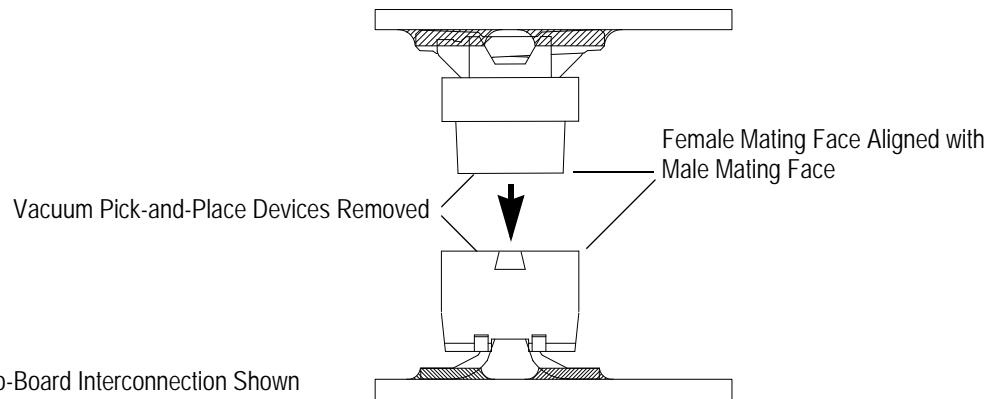

Figure 6
2. The female connector mating face and male connector mating face must be aligned, then the connectors must be pushed straight together. Refer to Figure 6.